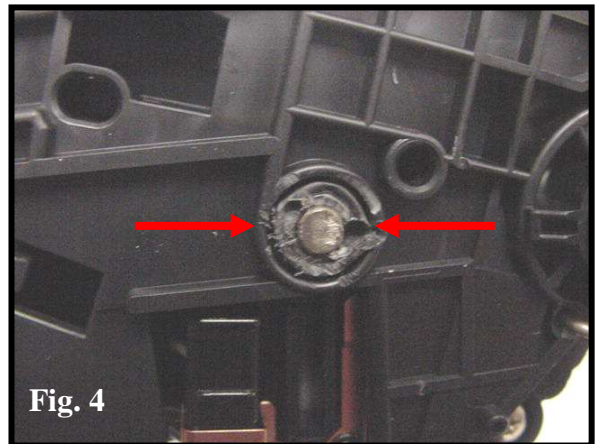

Fig. 4
4. Use a utility knife to remove the plastic that covers the cartridge pins on each side of the cartridge (Fig. 4). Use a small drill bit to remove some of the plastic on each side of the pin. This will enable you to access the pin easier with pliers.